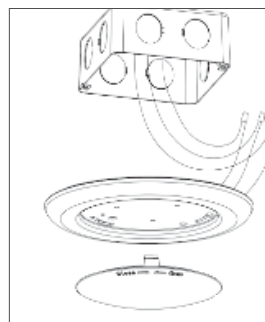

FIGURE 4
C) Remove lens by twisting counter clockwise. (Figure 4)
D) Use the included wire nuts (or quick connectors) to make electrical connections. Connect fixture black wire to supply black wire, connect fixture white wire to supply white neutral wire, connect the ground wire (attached to the fixture) to the ground wire in the junction box. (Figure 4)